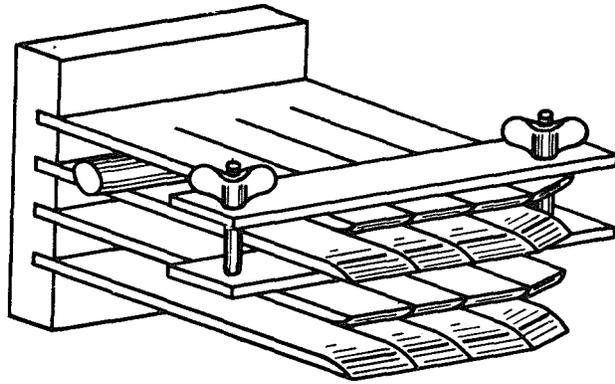

Fig. 9 - Illustrating Contact Clip Adjustment
(5) On laminated switches, it will be found that the inner clips can be adjusted by inserting a round rod of the correct size between the clips; securing a clamp over the outside of the clips as shown by Fig. 9; and tightening the wing nuts until the clips are properly shaped. No more shaping than is absolutely necessary should be done on the contact clips.
(6) In case the hinge clip binds, adjust the switch, when practicable, as follows: Remove the locknut, or set screw, from the hinge bolt, or nut, and remove the switch blade from the switch. See that the individual blades and hinge clips are clean, free from any roughness, and straight. Adjust the clips, if necessary, in a manner similar to that outlined in (3) and (4). Apply a small amount of powder to a clean cloth and rub well into the contact surfaces of the blades and clips and tighten the locknut or set screws so that the contact between the blades and clips is positive but does not bind.
(7) Should the blades be loose in the hinge clips, so that the proper contact is not made, loosen the locknut